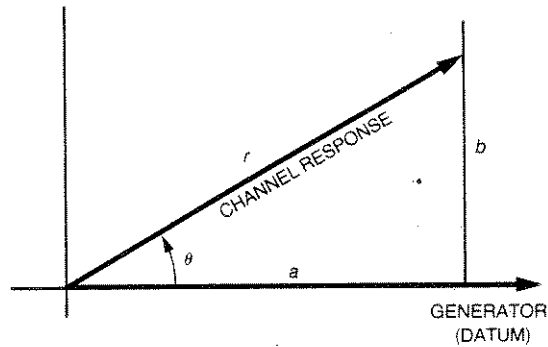

Fig. 1.3 Single Point Measurements
- a. Single Point measurements (i.e. the absolute voltage of either Channel, and its phase with respect to the Generator) as shown in Fig. 1.3: